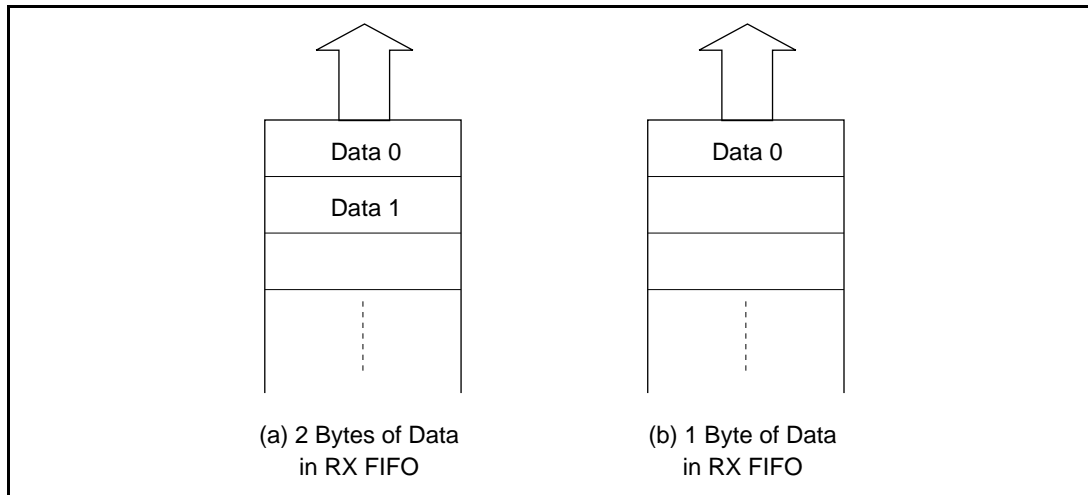

Figure 5.8 Data Arrangement in Receive Buffer
3. Data 0 and 1 are arranged in the order shown in figures 5.8 (a) and (b). The serial unit sends data 0 and data 1 to the receive buffer in that order.